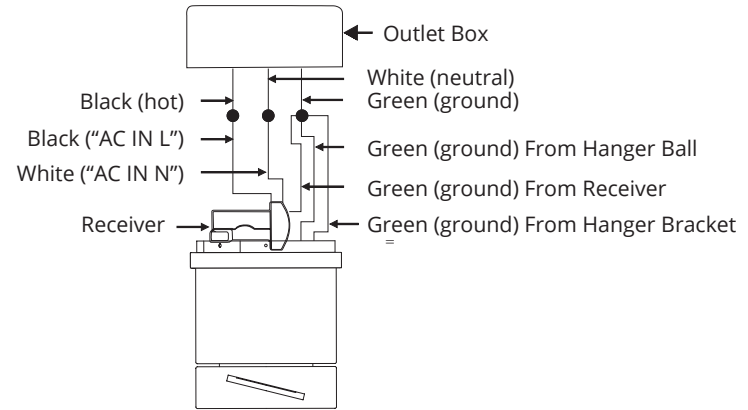

FIG. 15
4. Connect the black (hot) wire from the ceiling to the black wire marked "AC in L" from the receiver **(FIG. 15)**.
5. Connect the white (neutral) from the ceiling to the white wire marked "AC in N" from the receiver **(FIG. 15)**.